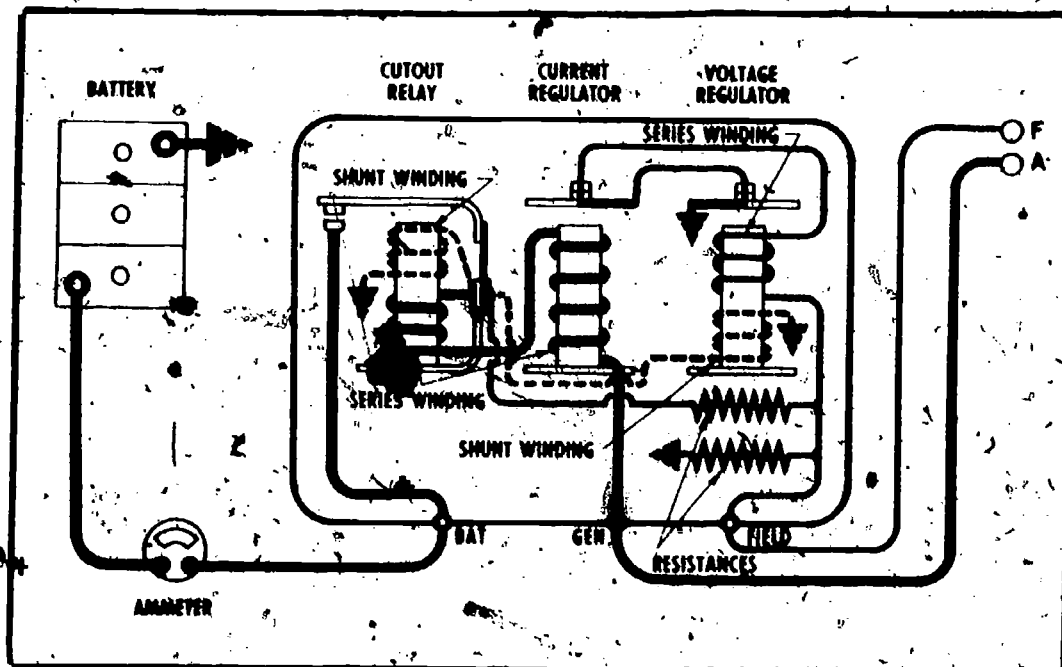
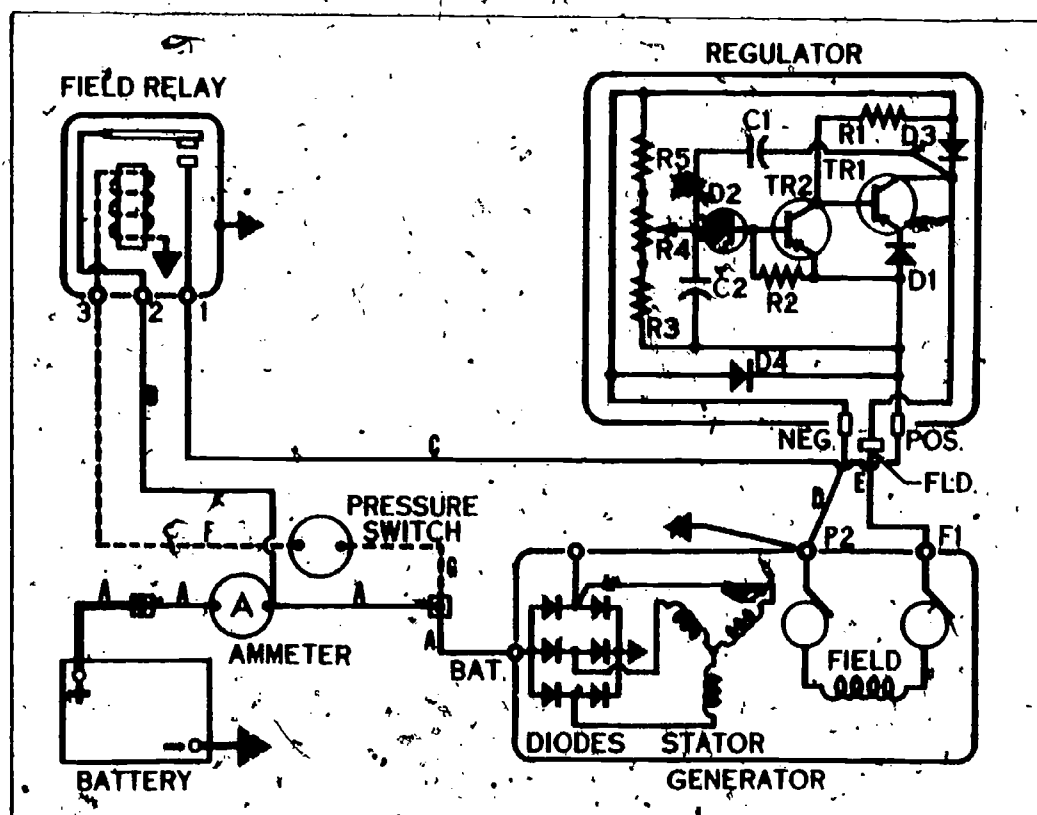

Fig 4-11. Schematic of generator regulator circuit.
Fig 4-12. Schematic of alternator charging circuit.
- (2) **Regulator.** This is the component that protects the generator by regulating the current and voltage output and disconnects the battery from the generator when the generator is not operating. Figure 4-11 is a wiring diagram of a regulator for use with externally grounded generator field windings. The windings of the cutout relay and current and voltage regulator units produce a magnetic field to open or close contact points to control current flow through the generator field. Magnetism from the windings is opposed by spring tension. Notice that this regulator also has shunt windings to oppose the series windings. There are several types of regulator assemblies, each designed to be used with a particular type of generator and electrical system. For example, a regulator such as the one in figure 4-11 is designed to be used with a generator like that in figure 4-9A. Figure 4-12 is a wiring diagram of a regulator used with alternators in a negative ground circuit. In this system, the battery connections are very important.
- (3) **Ammeter.** This component is connected in series between the voltage regulator assembly and the battery (fig 4-11). It measures the amount of current flowing in the circuit. It also serves as a terminal to supply other circuits with electricity. When the conductors are properly installed, the ammeter will show the amount of current flowing to or from the battery except the current used by the cranking motor.
- (4) **Conductors.** Conductors used in the circuit are a specific size (diameter) and composition. Although the length of a conductor affects the amount of resistance, the diameter and composition are the most important factors. Conductors are used throughout the electrical system and they must be large enough and of a composition that will allow the current to flow freely unless specified resistance is required. They must be insulated to prevent shorting of the circuit. The connectors must be tight to the conductor and clean and tight at the terminal junctions.